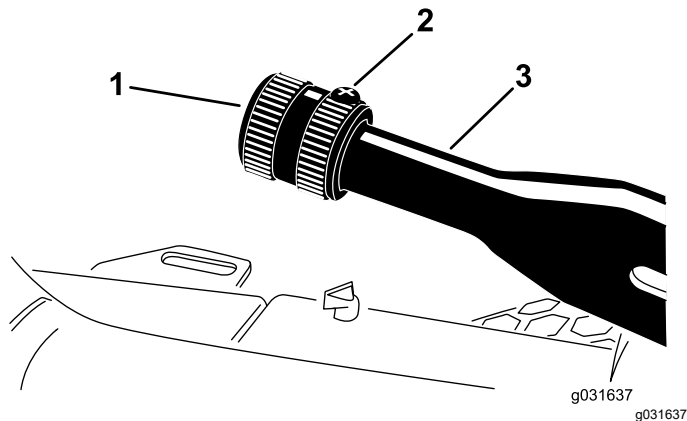

Figure 60
1. Loosen the set screw securing the knob to the parking-brake lever (Figure 60).